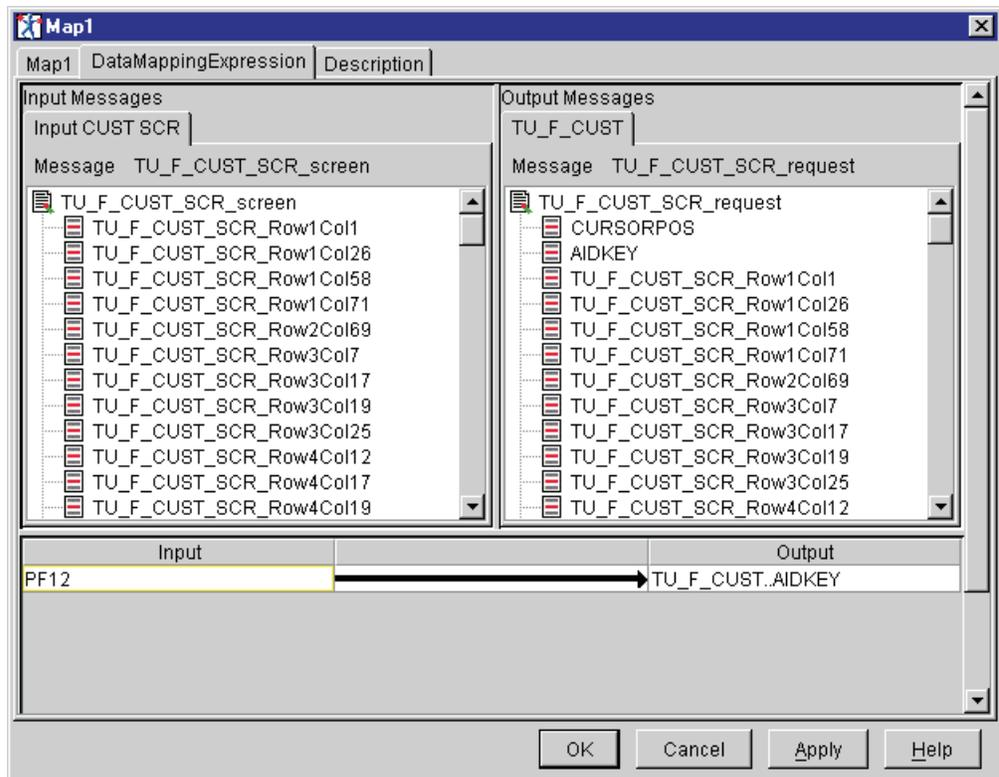

Figure 150. Mapping for Map1 node
- 1) Perform the mapping for the Map1 node as listed in Table 67 and shown in Figure 150. This maps the PF12 key to prepare the Customer information screen for input of the next Customer number.